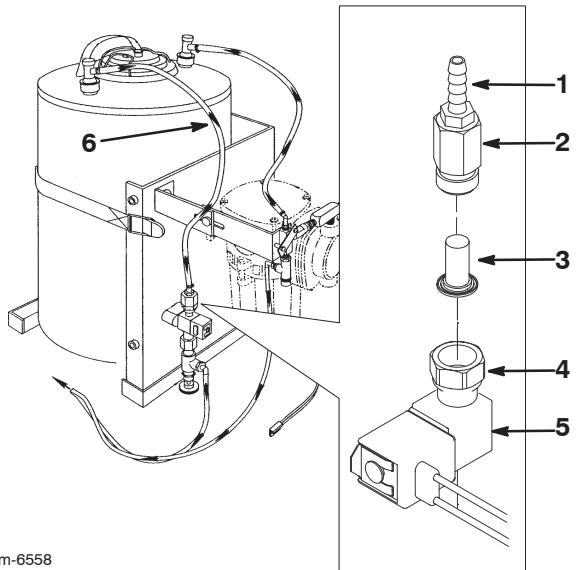

Figure 38
Important Dried foam agent and debris can clog the strainer (Fig. 38), causing slow or no foam production. This can be mistaken for a bad foam pump or incorrect foam mix. If experiencing slow or no foam production, remove and clean the strainer.
- 6.** Assemble strainer and nozzle body/hose barb as shown in Figure 38 and install into nozzle adapter/solenoid assembly.